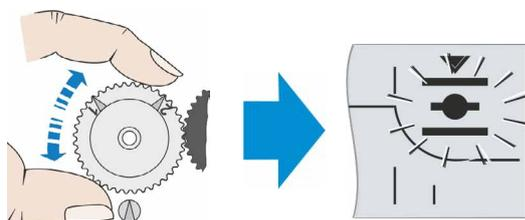

Fig. 6: Turn central wheel to mid position until end position symbol is flashing
8. Signaling gear only: Turn central wheel at signaling gear to mid position; markers 1 and 2 point in upward direction and the end position symbol of the selected end position starts to blink (fig. 6).